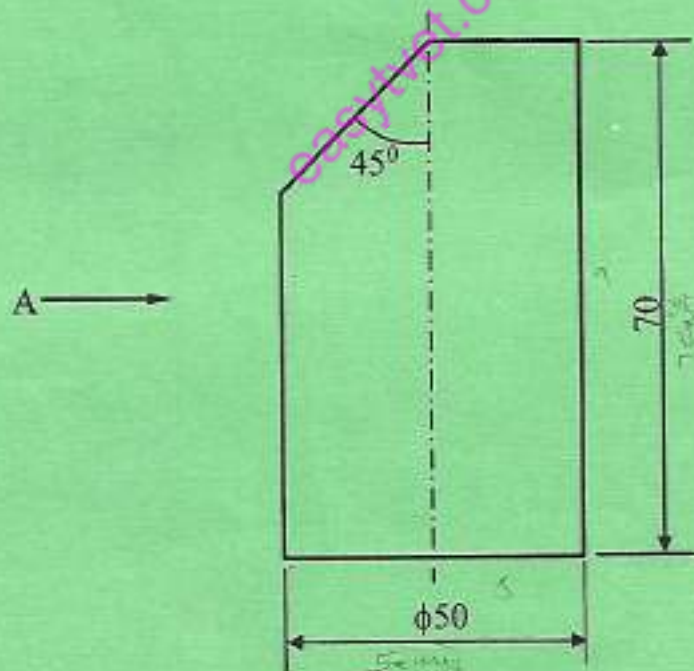

Fig. 3
7. Figure 3 shows an elevation of a truncated cylinder. Draw the given view and construct the following: